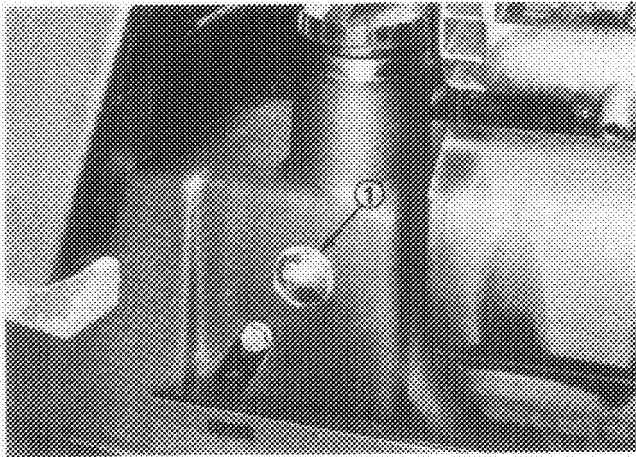

Figure 42
5. With cutting decks raised and oil warm, look into sight gauge (Fig. 42). If hydraulic oil is not visible, add enough oil to raise level to middle (maximum) of sight gauge. To prevent over filling, do not fill if oil is cold. **DO NOT OVER FILL.**